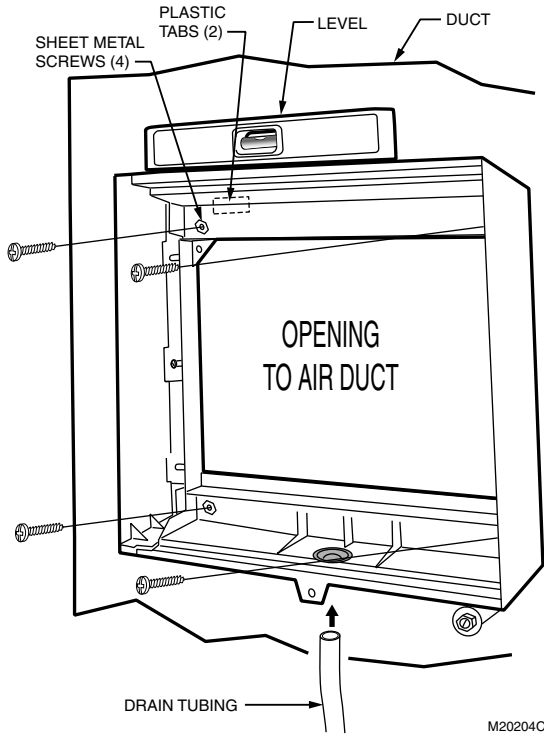

Fig. 5. Installing humidifier on duct.
8. Make sure the humidifier housing is level, then position it in the opening so the plastic tabs are in place on the *upper sheet metal edge* of the opening. Use pliers, as necessary, to flatten cut edges. See Fig. 5.